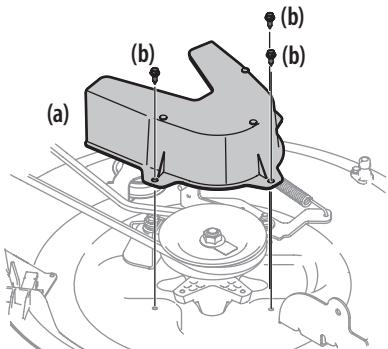
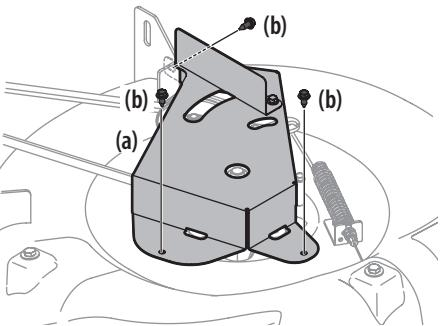

Figure 32
Figure 33
5. Remove the deck belt cover (a) by removing the three hex bolts (b) that secure it. See Figure 32 for 30" decks and Figure 33 for 24" decks.